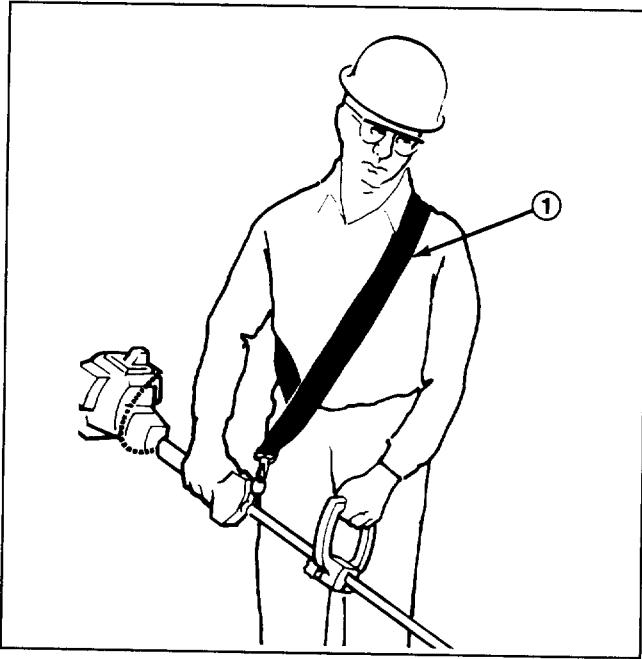

Figure 3
1. Stand on left side of unit, hang harness over left shoulder with harness hook assembly located by right hip (Fig. 3). The double strap loop of the shoulder harness should lie diagonally across chest with harness hook assembly at right hip.